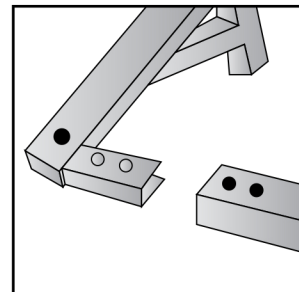

Figure 2
2. Slide the frame and the frame cross-bar together, aligning the bolt holes. (Figure 2)